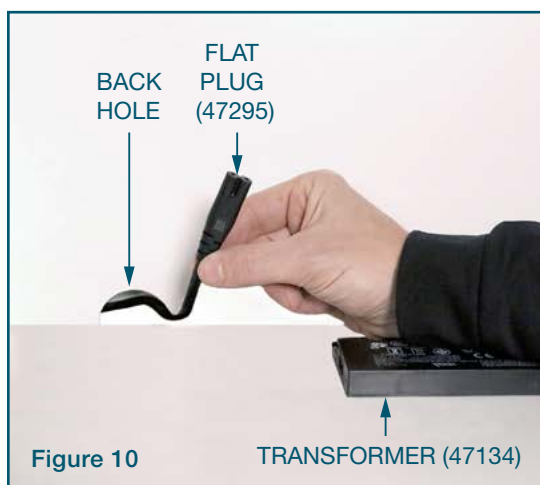

Figure 10
**07** Detach the Flat Plug (47295) from the Transformer (47134). Feed the prong end through the hole at the back of the cabinet and plug into an electrical outlet. Connect the flat plug end back into the transformer (see Figures 10 and 11).